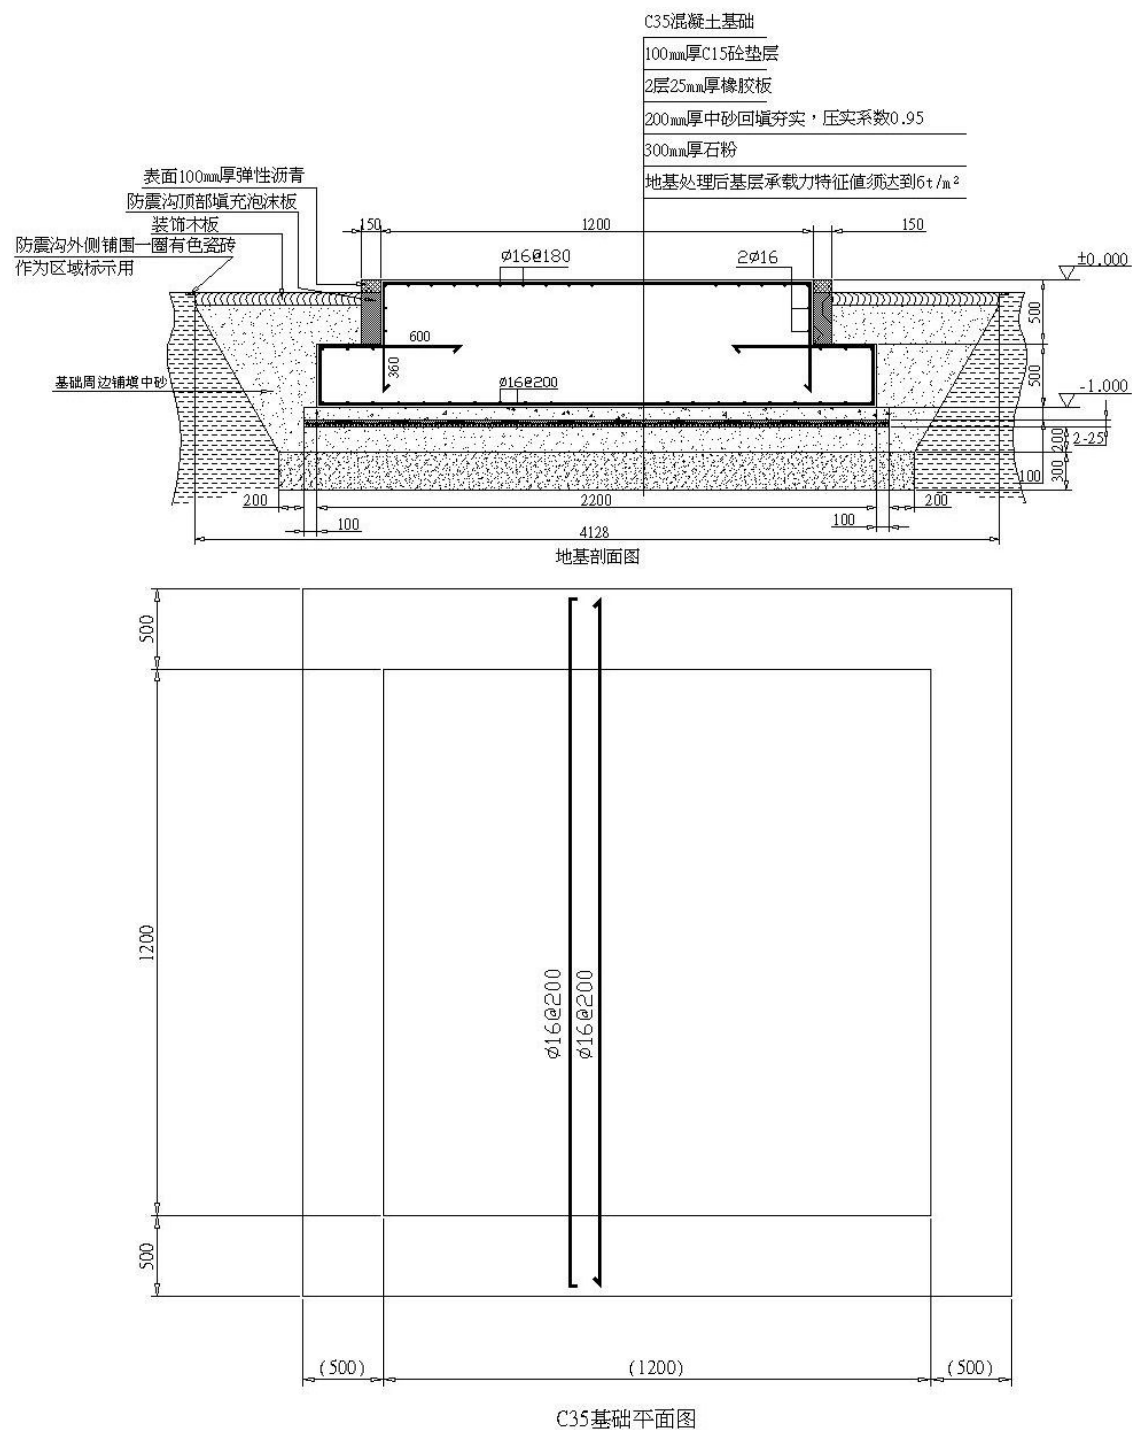

Fig.3 Instrument installation ground base (take CMS-554M for instance)
8.2.3 In order to be efficiently free from shock and quake, it is advisable to have shockproof ditch around the instrument installation base. Please refer to Fig.3 for structure and size of shockproof ditch.